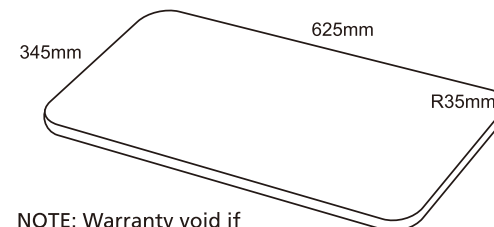

Figure 1
2. Please refer to the following installation die-cut template (figure 1) supply with your unit when marking holes for mounting and installation.